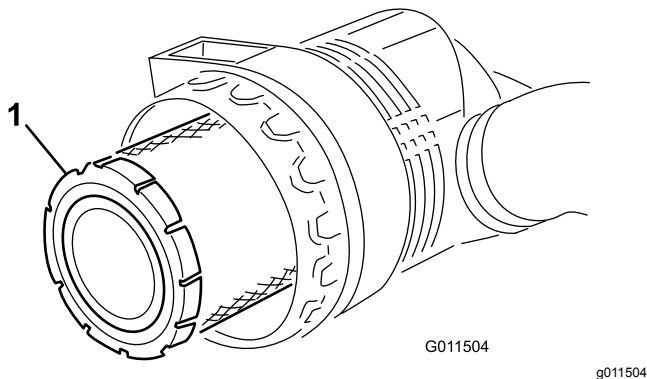

Figure 48
5. Remove and replace the primary filter (Figure 48).